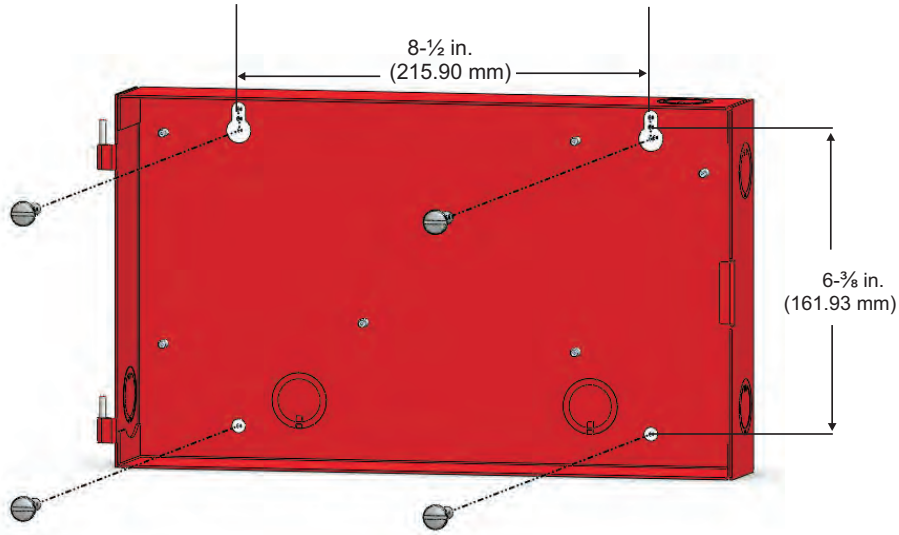

Figure 2-39. Surface Mounting of the Remote Enclosure (shown without RDCM or R-LAM modules)
1. Mark and pre-drill holes for four mounting bolts using the dimensions shown. Two keyhole slots (at the top) and two holes (at the bottom) are located in the enclosure's rear panel that serve as a template for surface mounting. (Refer to Figure 2-39.)